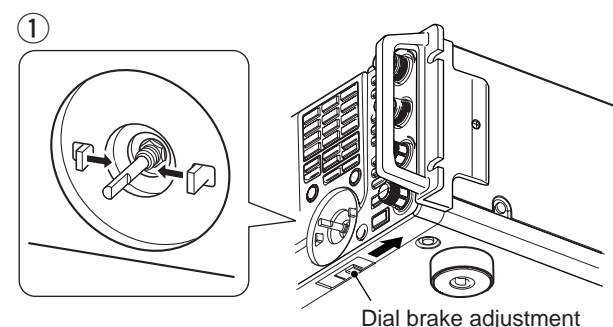

Fig. 1
- ① Slide the dial brake adjustment to the right position (Fig. 1).